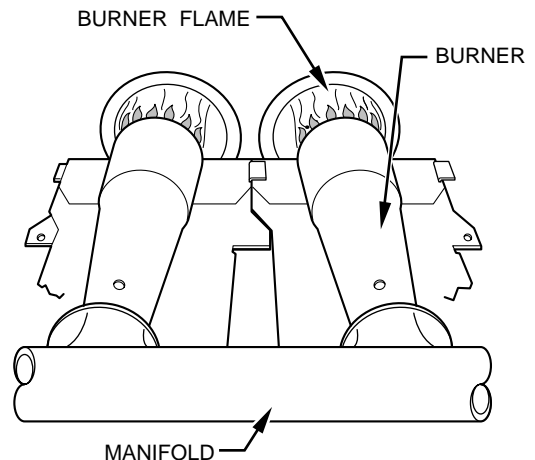

Fig. 64—Burner Flame
- i. When correct input is obtained, replace caps that conceal gas valve regulator adjustment screws. Main burner flame should be clear blue, almost transparent. (See Fig. 64.)